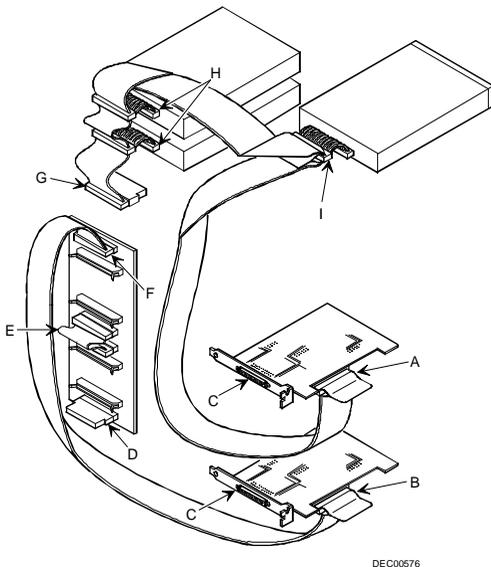

Figure 3 - 22 Single Channel SCSI and RAID Bus
- 1) Connect the SCSI cables as shown in Figure 3 - 23. If necessary, connect appropriate power cable to device.